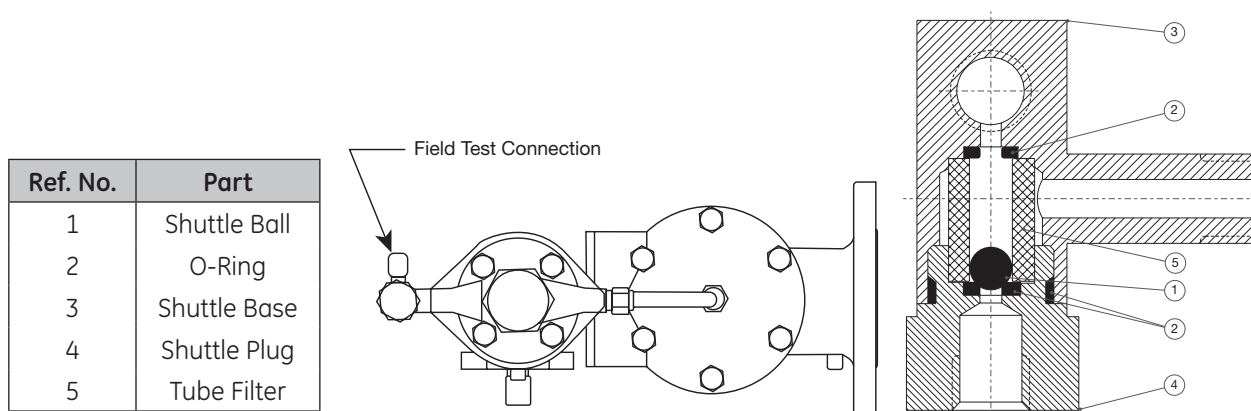

Figure 39: Field Test Connector
1. Field Test Connection (Figure 39):